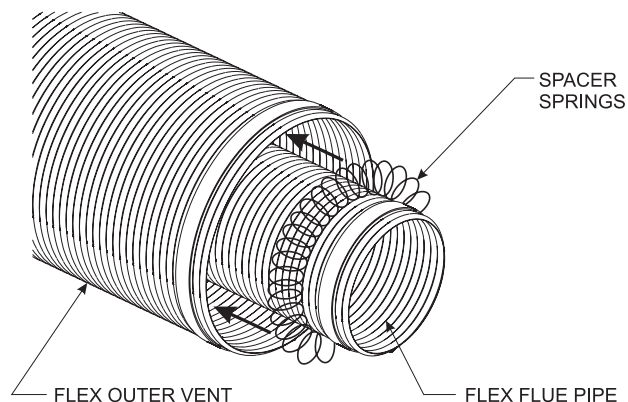

Figure 54
2. Ensure that the vent spacer springs are located at 8 inch intervals along its length. See Figures 54 and 55. If not, stretch the spacer springs to about 15 inches long and wrap them around the flue, then interlock the ends of each spring. Maintain equal distance between spring spacers.